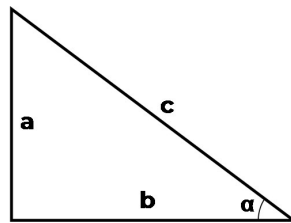

Figure 11-1. Right triangle
1. Refer to previously shown Figure 11-1 (p. 18)